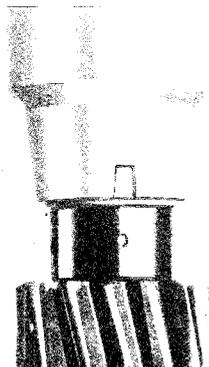

Fig. 5-41 Aligning tally marks
2. Align the tally marks on the distributor housing and driven gear as shown in Fig. 5-41.